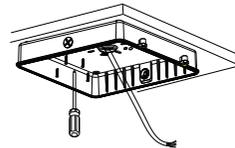

Figure 2-4
4. Fix the junction box cover on the ceiling; Figure 2-4